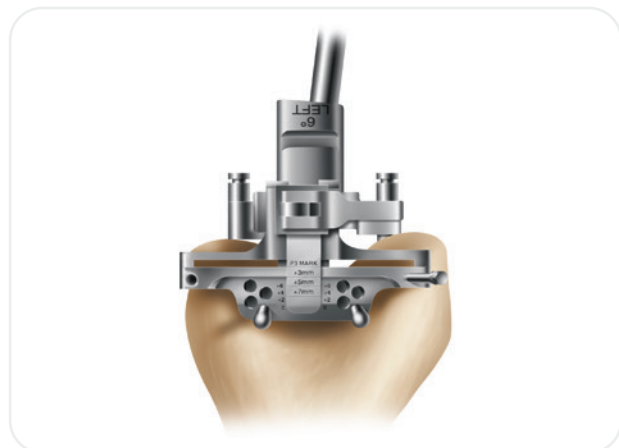

Figure 5
1. Using a non-headed pin, pin the distal femoral cutting block to the anterior femur using the holes marked '0'. Once adequate distal femoral resection is noted, an additional headed or non-headed pin should be placed obliquely to provide additional stability (**Figure 5**).